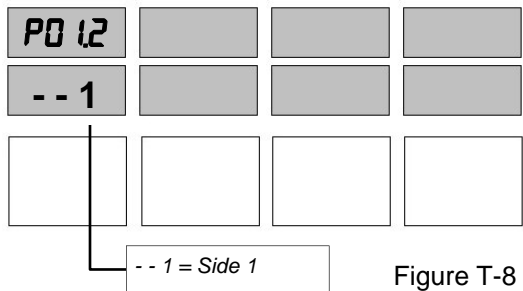

Figure T-8
1. Press the 2 button and then the **MODE** button on the keypad. The main sales display appears similar to Figure T-8.